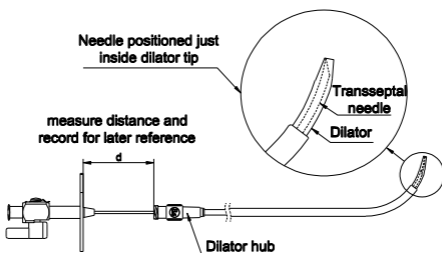

Fig.3
- Measurement 2. Measure the distance between the pointer flange and the dilator hub with only the needle tip (without the stylet inserted) just inside the tip of the dilator. (See Fig.3.)